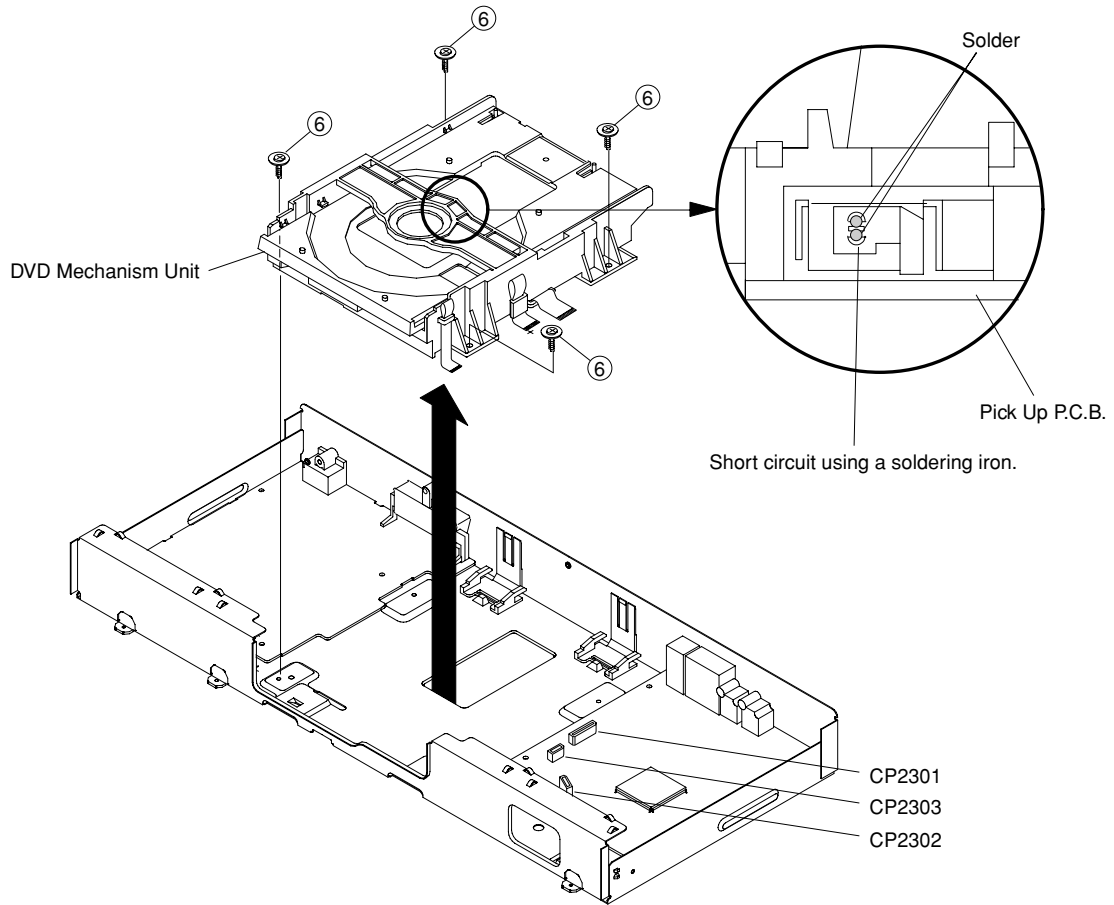

Fig. 3
4. Removal of DVD Mechanism Unit. (Fig. 3)
- Short circuit the position shown in Fig. 3 using a soldering iron. If you remove the DVD Mechanism Unit with no soldering, the Laser may be damaged.
- Remove 4 screws (⑥).